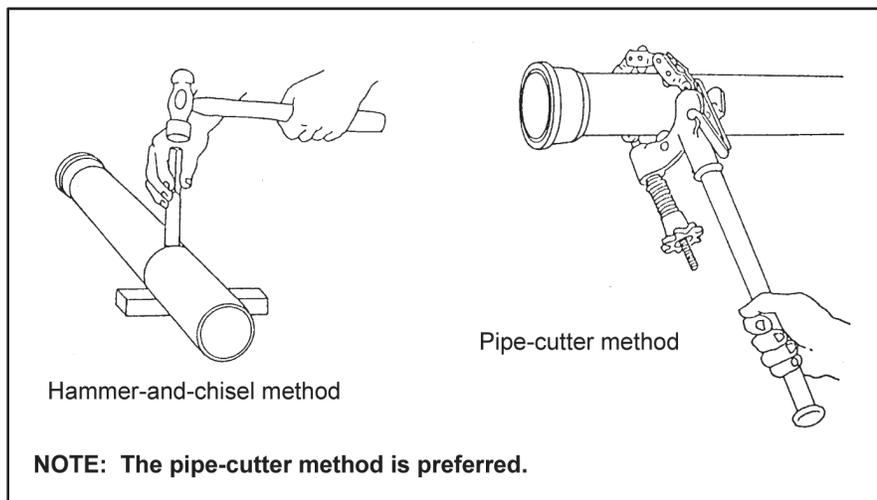

Figure 6-13. Cutting cast-iron soil pipe
- **Soil-pipe cutter.** Set the pipe in a vise and position the cutting wheels on the mark by turning the adjusting knob. Apply pressure on the handle until the pipe is cut. Use the adjusting knob to keep a good bite on the pipe (figure 6-13).
- **Hammer and cold chisel.** Place the pipe on a board or mound of dirt at the point to be cut. Then place the chisel's cutting edge on the mark and hit it lightly with the hammer while rotating completely around the pipe. Continue scoring around the pipe using harder blows until the pipe is cut (figure 6-13).